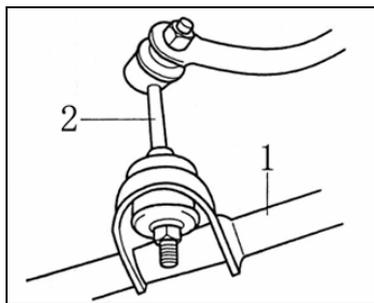
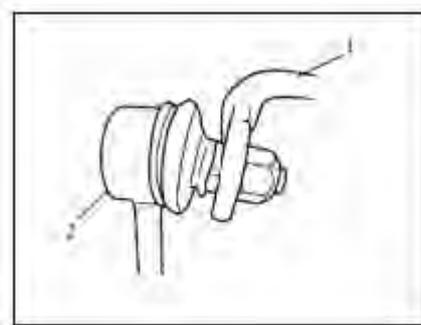

FIG.14-5
FIG.14-7
- (1) Lift up the vehicle.
- (2) Remove stabilizer link from tension rod. (FIG.14-5)
- (4) Remove stabilizer link from front stabilizer bar (FIG.14-7).
- (2) The specified torque can refer to TABLE14-1, the position can refer to FIG.14-5~FIG.14-7